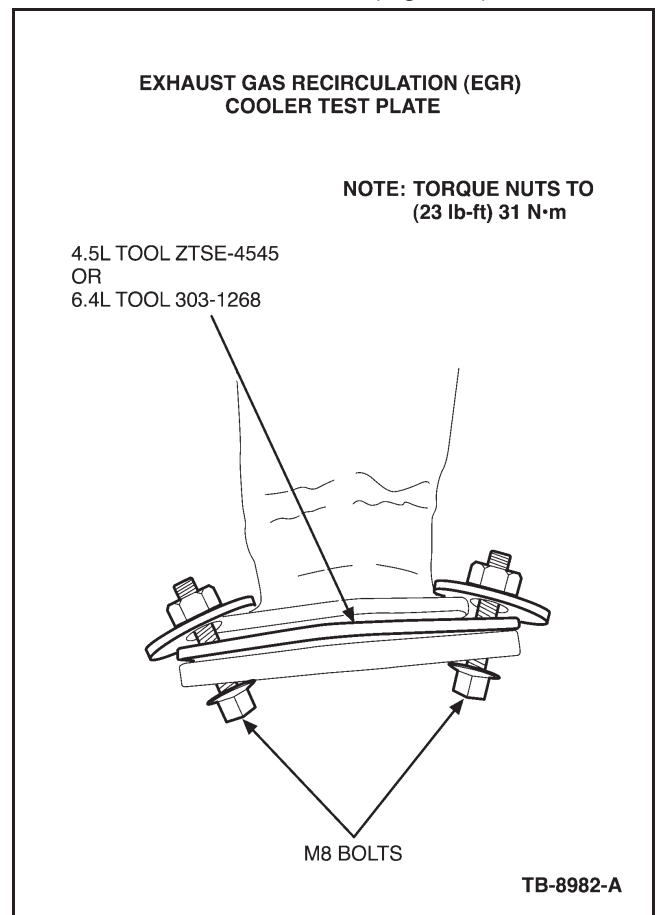

Figure 1 - Article 09-18-12
- b. Install block off adapters using standard screws and washers. (Figure 1)